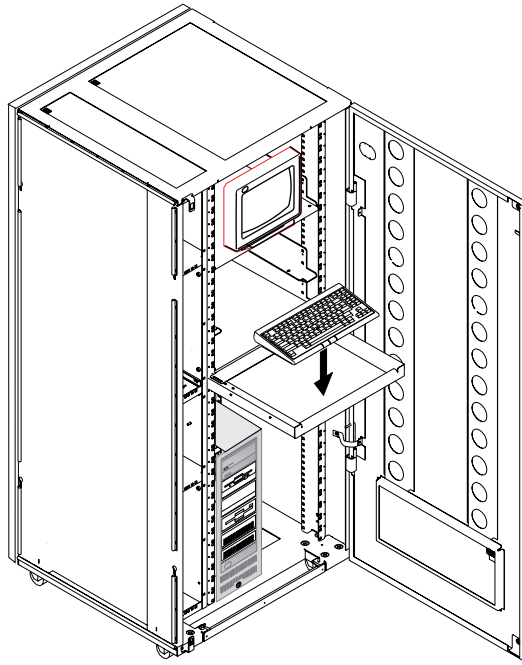

Figure 1-78. Installing the Keyboard
12. ____ Open the drawer and install the keyboard as shown in Figure 1-78.